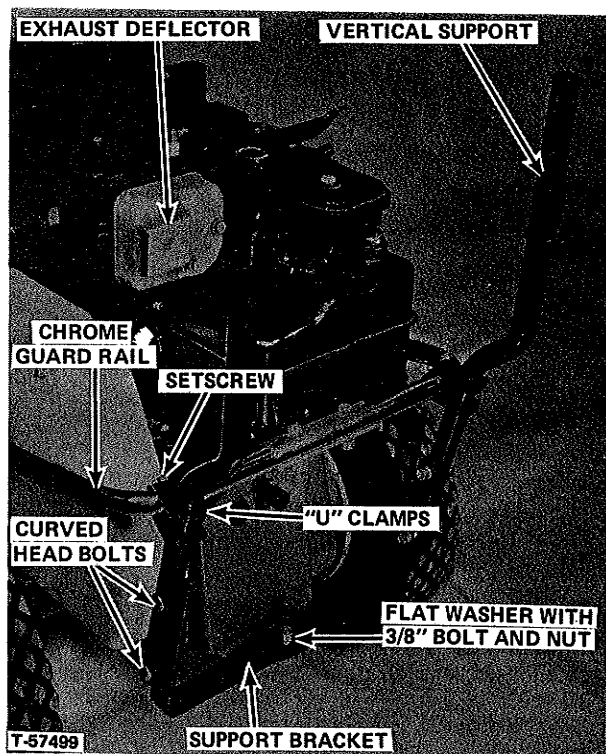
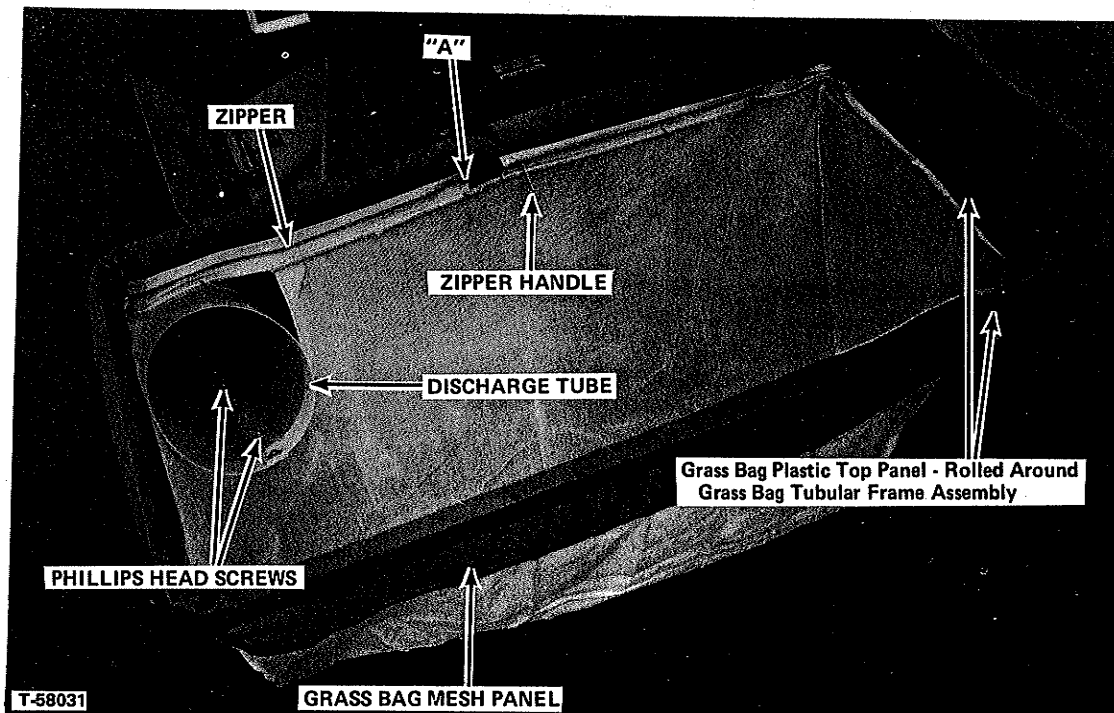

FIGURE 24
FIGURE 25
6. See Figure 24. Remove the three thumb screws holding the engine hood and remove head. Remove the original exhaust deflector and replace with new deflector to direct exhaust stream to the side instead of rearward.
7. See Figure 24. Attach support bracket to top of drawbar using flat washer at bottom of drawbar along with 3/8-inch bolt with lockwasher and nut.
8. See Figure 24. Slide the "U" clamp with setscrew over the chrome guard rail and position vertical supports through "U" clamps. Bolt vertical supports to support bracket with curved-head bolts using 5/16-inch lockwasher and nut. Tighten "U" clamp setscrew against guard rail to lock vertical supports. Replace engine hood and tighten thumb screws.
9. See Figure 25. The discharge tube is assembled by rolling the plastic to form a tube securing it in position by using eight Phillips head screws. Place a flat washer on each side of tube seam followed by lockwasher and hex nut. Place nuts on outside of discharge tube. Slip tube over adapter opening.
10. The grass bag tubular frame assembly on which the grass bag hangs has two tubular supports welded to its front side in position to fit over the vertical supports shown in Figure 24. To install bag on this frame the bag zipper must be completely un-zipped allowing the grass bag plastic top panel to unfold. On the front side of grass bag, opposite the mesh panel, there are two holes in the plastic top panel. Insert the two tubular supports welded to the grass bag frame down through these two holes with the cloth portion of the bag toward the inside of the frame and with the plastic top panel on the outside of frame. Roll the plastic top panel up and over the frame tube and bring the two halves of the zipper together on the inside of the frame. Connect the ends of the zipper together at point "A". (Figure 25). Then work zipper handle counter-clockwise completely around the rectangular frame closing the zipper hooks as it goes until the other end of zipper is reached as shown in Figure 25.
11. Lift the frame, and the bag assembled to it, and insert the upper ends of the vertical supports, (Figure 24), into the tubular supports welded to the grass bag frame. Lower the frame and bag over the vertical supports as far as they will go, inserting the rear end of the discharge tube in the hole in the left front corner of the grass bag as bag is being lowered (Figure 25).
To empty grass bag, pull up on cover to unsnap spring clips and remove cover. Lift bag and frame straight up until the frame tubular supports come off of the vertical supports. Turn bag and frame over to dump grass clippings. Again place the grass bag frame tubular supports over the vertical supports and lower in place slipping bag over discharge tube as in Figure 25. Place grass bag cover over grass bag frame and snap spring clips in place over grass bag frame.